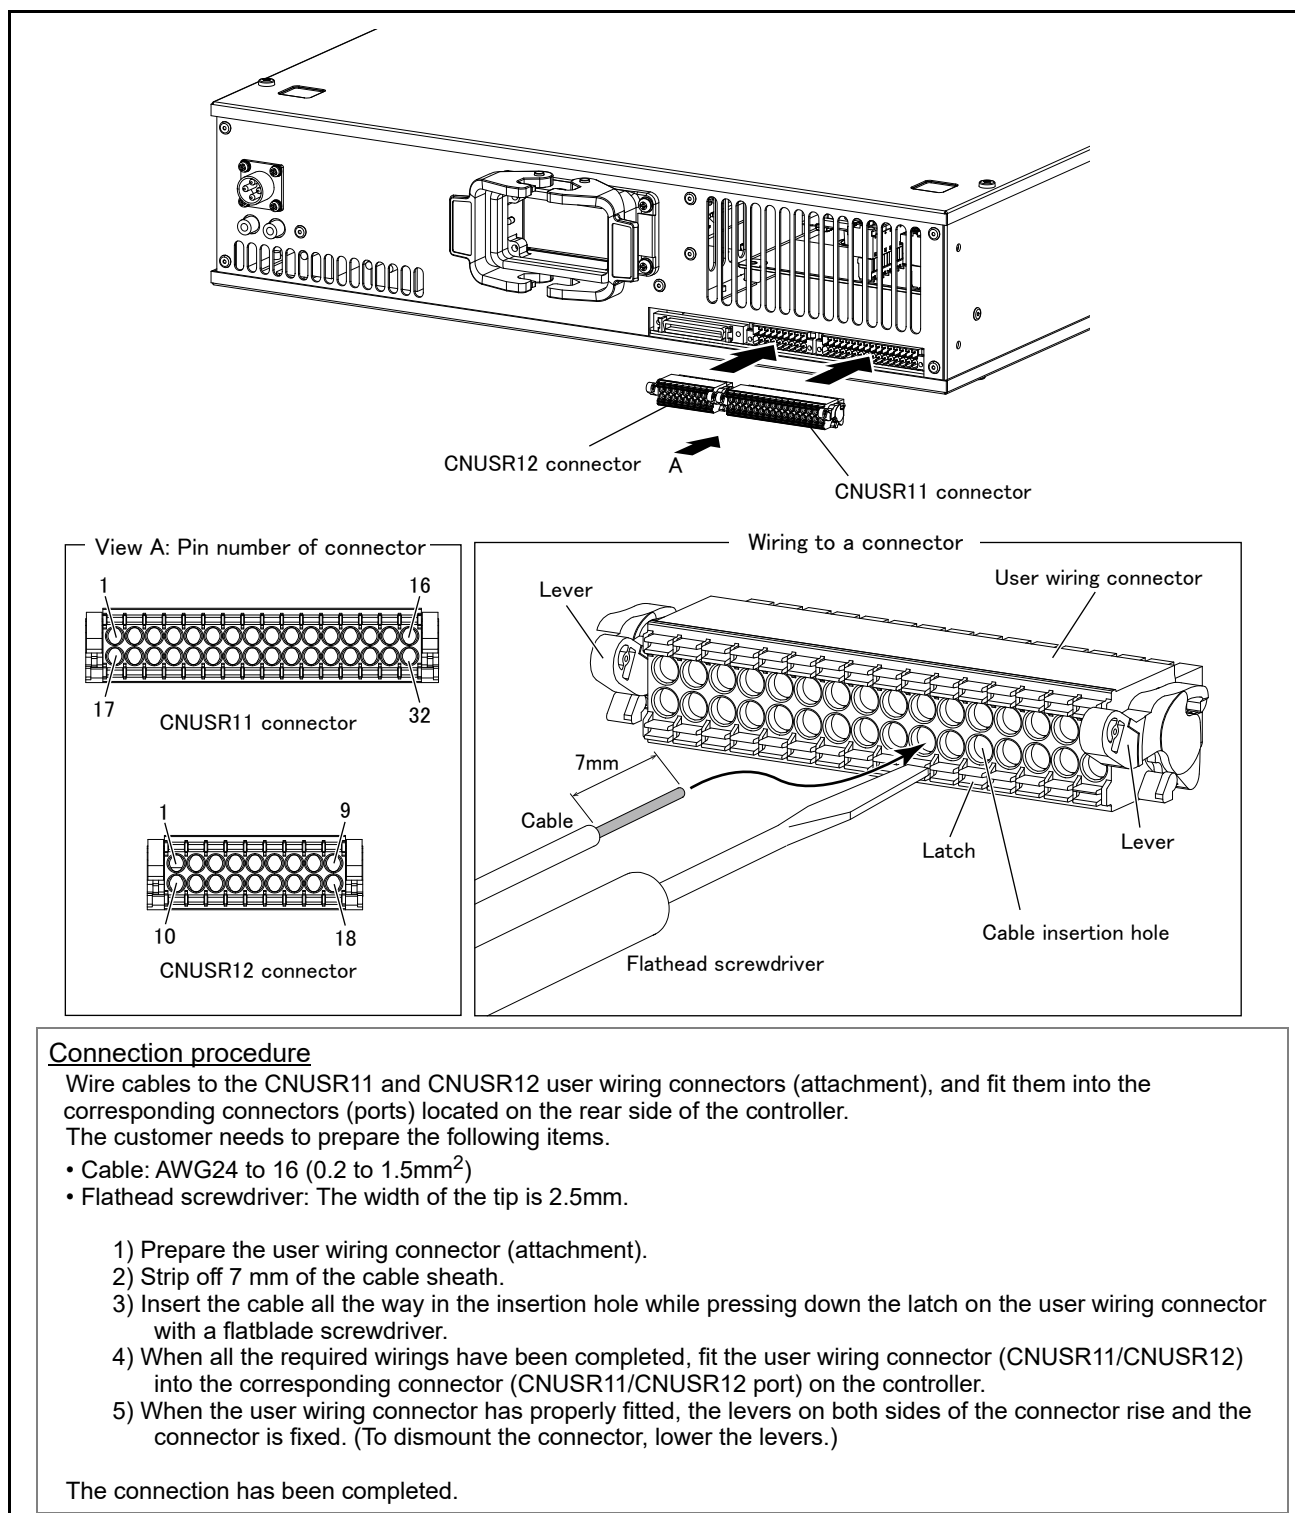

Fig.3-9: Wiring method to the user wiring connector
* Refer to Page 62 "Fig. 3-9: Wiring method to the user wiring connector" for more details about how to wire a connector.
(2) Image of how to connect the controller connector